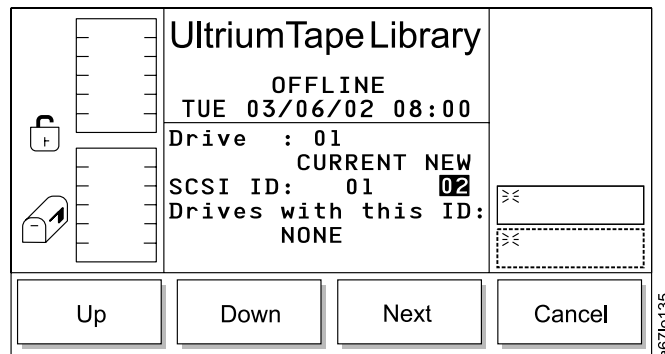

Figure 56. Drive SCSI ID Dialog
1. Press the button below the **Next** softkey. The Drive SCSI ID Dialog displays (see Figure 56).